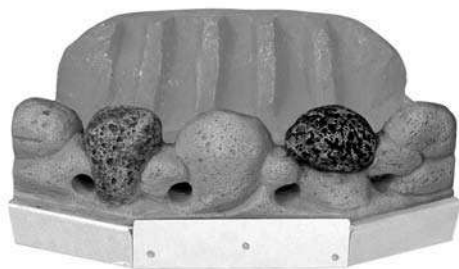

Fig. 17
3. Position the front pebble piece on the front coal retainer, making sure that the back edge is pushed up against the front of the burner strip (Fig. 17).